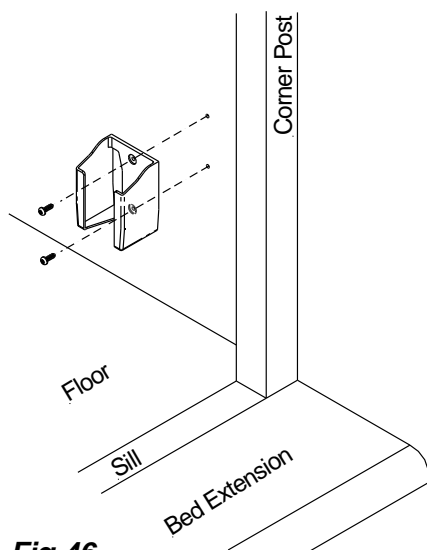

Fig.46
1. Mount the holster approximately 40" - 48" from the floor, or determine the best location as preferred by end user, **Fig.46**.